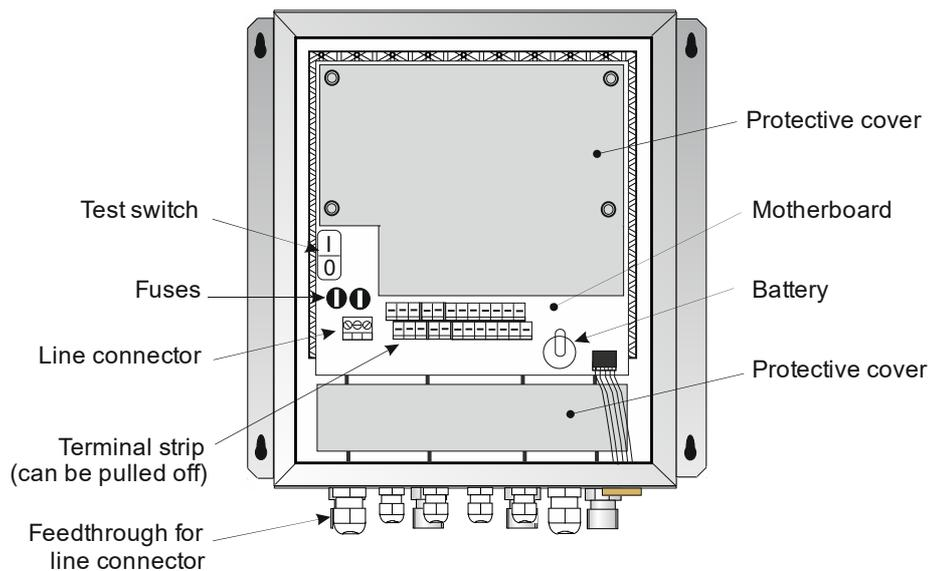

Figure 5-1:
- Connect the deenergized power cable to the terminals 3(L1), 2(N) and 1(PE).
- Verify that the test switch (power interruption) is in position "ON" (see Figure 5-1).